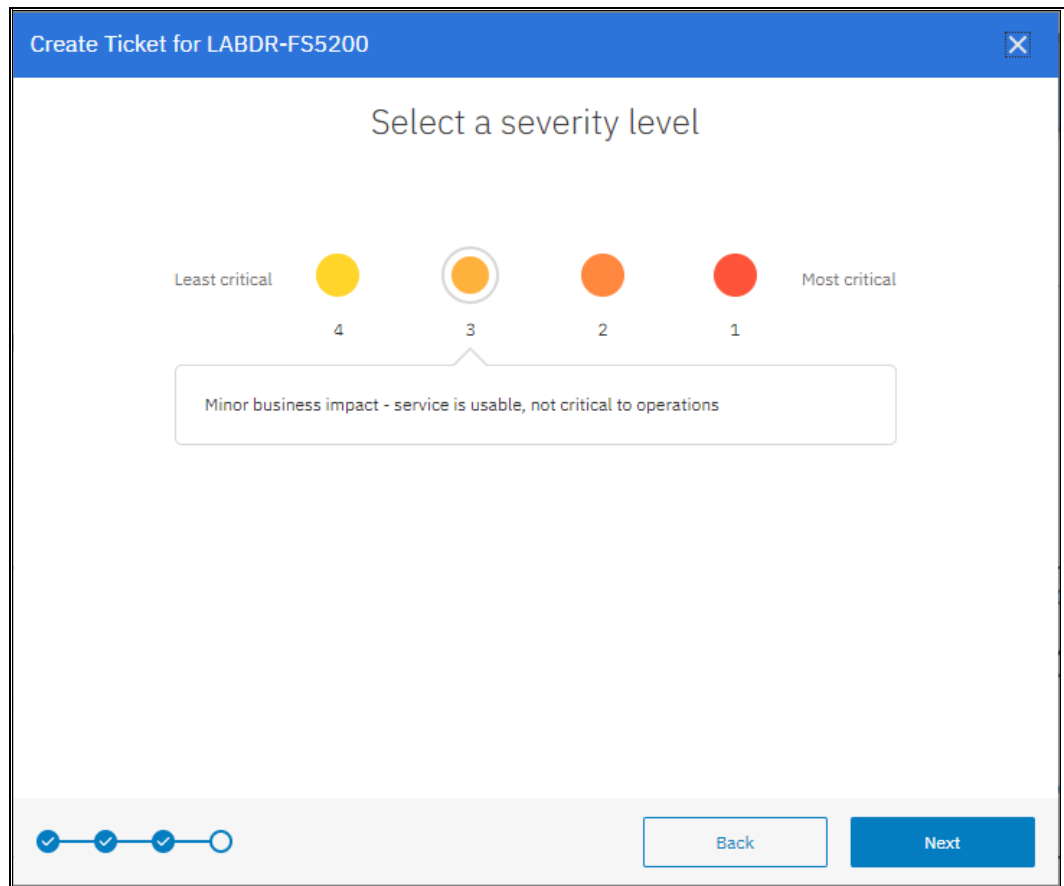

Figure 11-23 Setting the severity level
3. You are prompted to set a severity level for the ticket, as shown in Figure 11-23. Severity levels range from Severity 1 (for a system that is down or extreme business impact) to Severity 4 (noncritical issue).